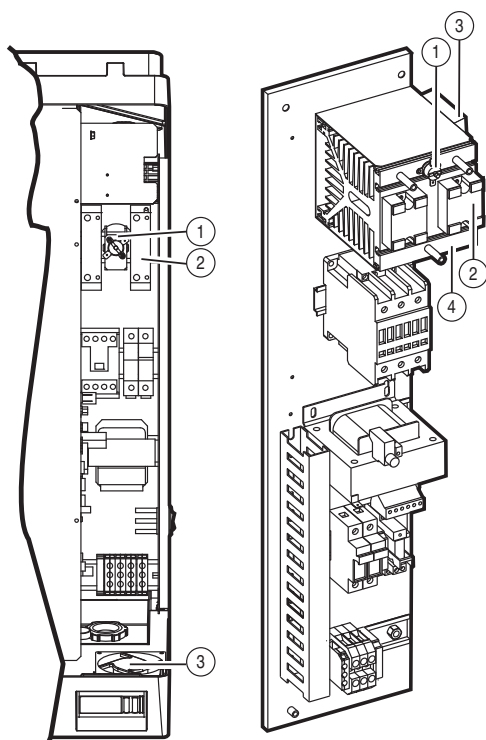

Fig. 2.f
- Whether the thermoprotective placed in the din rail near to the SSR relays has been working, or placed in front of the baffle pressing the reset button (see Fig. 2.f);